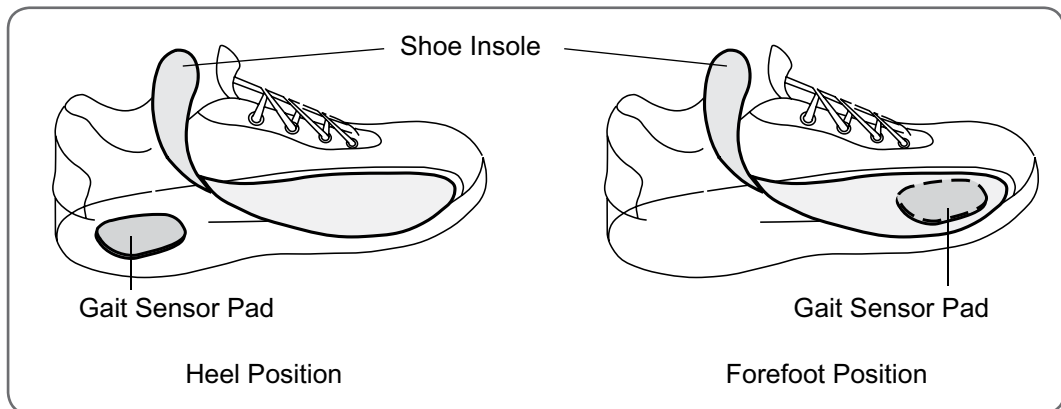

Figure 6-5: Placement of the Gait Sensor pad.
2. Attach a Gait Sensor pad under the insole, in the position that was defined by your clinician. See Figure 6-5.